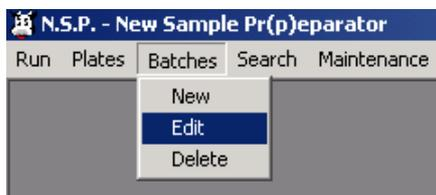

Fig. 6.2-1 : Edit reagent batch
- (1) Select “Edit” from the “Batches” menu (Fig 6.2-1).